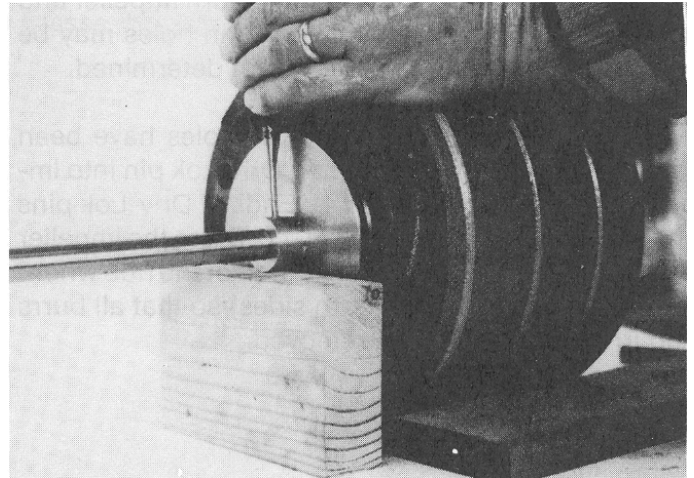

Figure 3
6. Remove the four cap screws (30) which retain the seal housing or stuffing box housing (29 or 4).
7. If the pump has the packing type seal, remove the nuts (19) from the gland bolts and gland clamps and remove gland (21). Lift the stuffing box housing (4) off the shaft.
8. If pump has a mechanical seal, lift the seal housing (29) off the pump shaft. Note that the "O" ring and the stationary half of the shaft seal are removed with the seal housing unless they are to be replaced (see Part 5B of Installation and Operation Instructions and Special Maintenance Instructions for Shaft Seal Re-placement Step 5). Reach into motor adapter cavity and slide rotating shaft seal half (31) and the seal spacer (32) off the pump shaft.
9. Remove the four stud nuts (23) and sealing washers (38) on motor adapter.
10. Using a soft faced hammer, tap the motor adapter (2) and top diffuser (8) to loosen the gasket seal. Remove motor adapter off the top diffuser casing stage.
12. Using soft faced hammer, tap pump base (13) to loosen gasket seal between base and bottom diffuser casing. Pulling steadily and carefully, remove base with four studs attached from diffuser casing stack.
14. To disassemble diffuser casing stack, first level stack with 2 x 4 block under hub of top impeller and thin wood under diffuser stack as required. Shaft and impeller hub should not be supporting any weight of the diffuser stack. Impeller hub should just be resting on edge of 2 x 4 block. Using 5/32" or 1/8" needle punch, drive lock-pin out of impeller hub and shaft (see Figure 3).